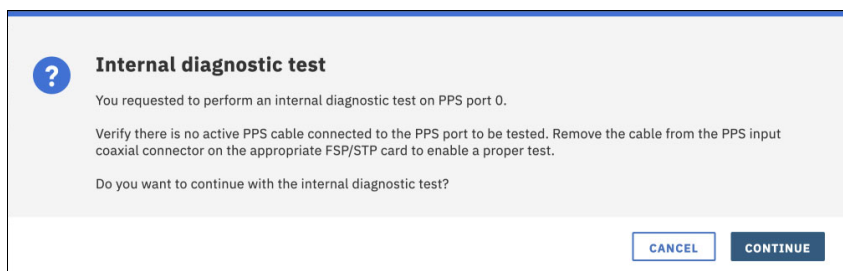
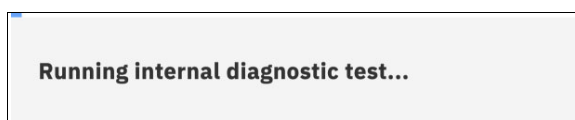

Figure 4-63 Internal diagnostic test - confirm that no cable is connected
Figure 4-64 Running Internal diagnostic progress
6. In the confirmation window, click **CONTINUE** (Figure 4-63 and Figure 4-64).